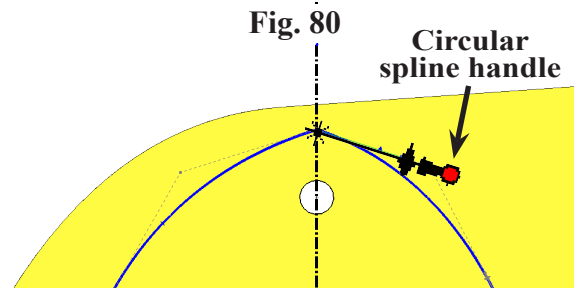

Fig. 81
Step 13. Click the second spline and grab the circular spline handle (small gray dot) at right endpoint, **Fig. 81** and pull up to adjust spline.